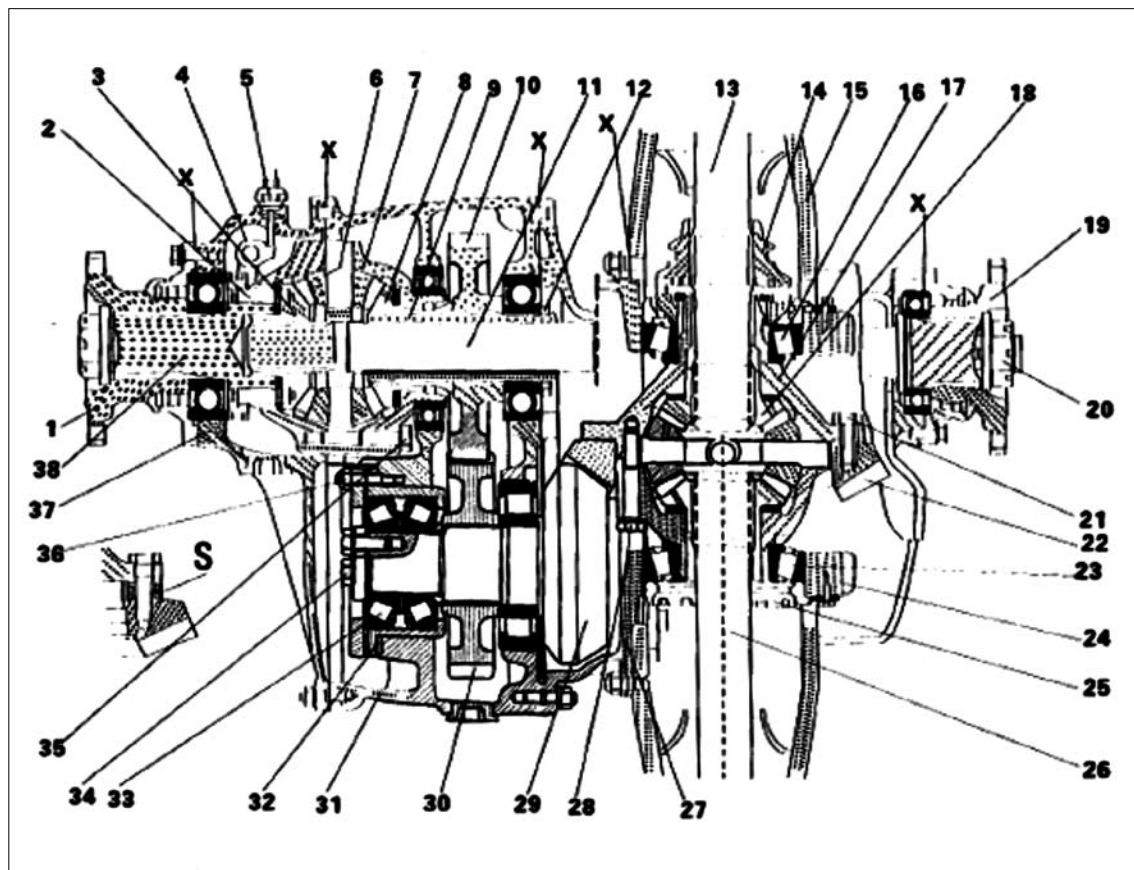

Figure 3-2 (A) Structure diagram of drive middle axle
Structure of middle axle is very complex. Figure 3-2 (A) shows structure diagram of drive middle axle, figure 3-2 (B) shows its resolution graph.
As figure 3-2 (A) shown, power is transferred to flange assembly 1 by propeller shaft, then drive differential housing (front) 38 to rotate through castellated shaft. In fact, differential housing (front) 38 is front half housing of inter-axle differential, and links with rear half housing of differential 35 by hexagon stud. In inter-axle differential, the same spider planetary gear meshed with two half- shaft gears, so to drive half shaft gear 3 & 8 to rotate together. Front half shaft gear 3 links with thru shaft 11 of drive rear axle through spline, thus to transfer power to rear drive axle. Rear half shaft gear 8 links with hollow shaft 9 through spline. Hollow shaft 9 links with driving cylindrical gear 10 through spline, thus transfer power to driving bevel gear shaft 29 via driven cylindrical gear 30, and then transfer power to left & right shaft